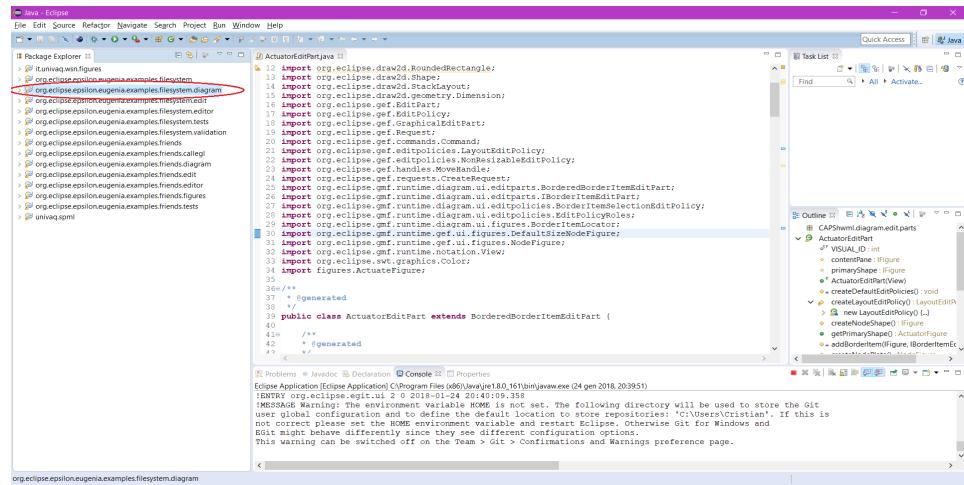

Figure 1.2: The package you have to right click on
- Right click on **org.ecplise.epsilon.eugenia.examples.friends.diagram** (figure 1.2);